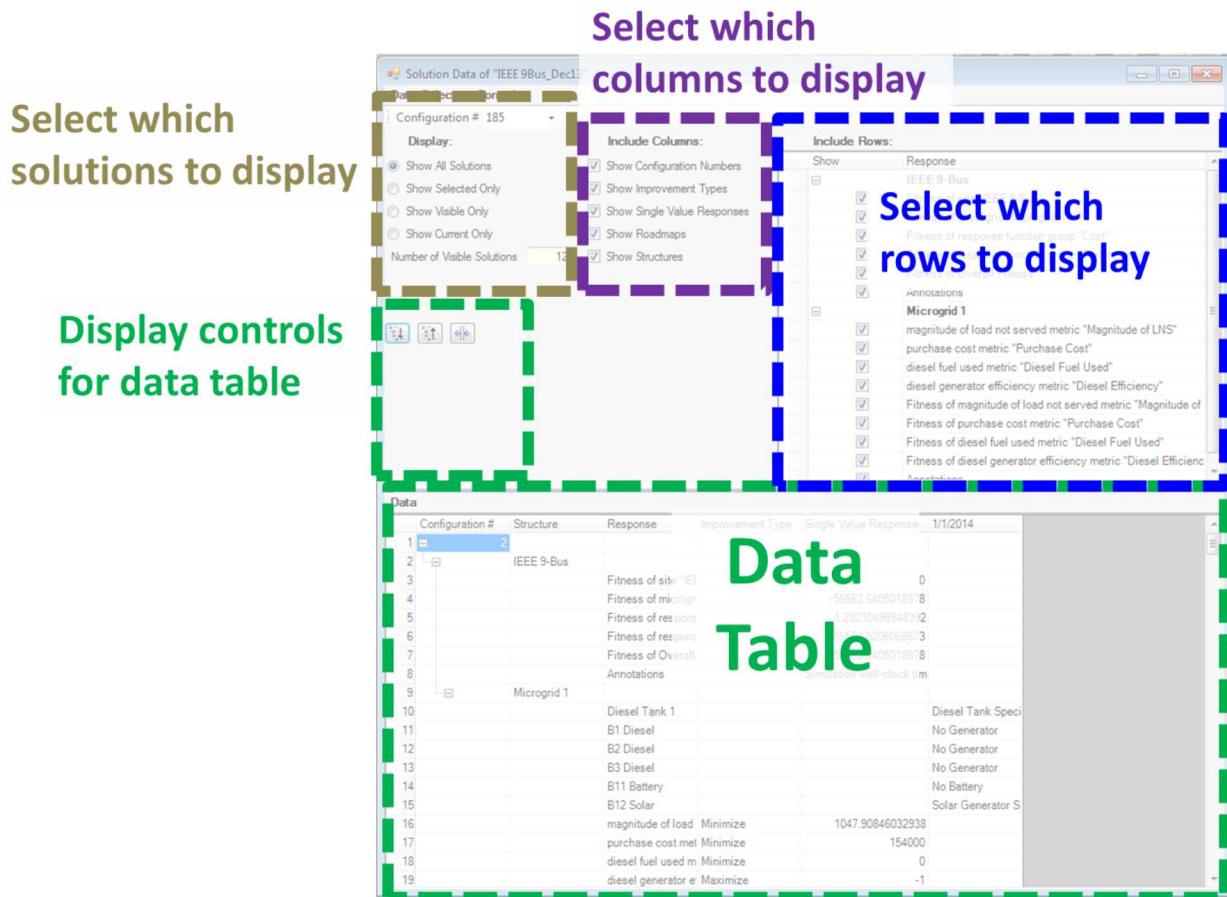

Figure 72. Overview of the Data Extraction plot.
Data Extraction allows you to extract the results data from MDT. A data table is displayed at the bottom of the window (highlighted in green in Figure 72). This data can be copied-and-pasted to Excel.
- The checkboxes on the left control which columns are displayed (highlighted in purple in Figure 72).
- The "Show – Response" checkboxes control which rows are displayed (highlighted in blue in Figure 72).
- The radio boxes on the left control which configurations are displayed (highlighted in brown in Figure 72).